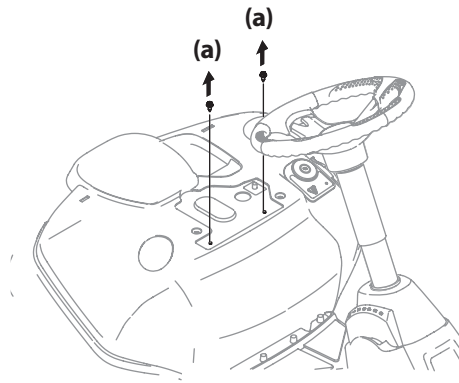

Figure 2-5
2. Remove the two self-tapping bolts (a) factory installed on the tractor. See Figure 2-5.